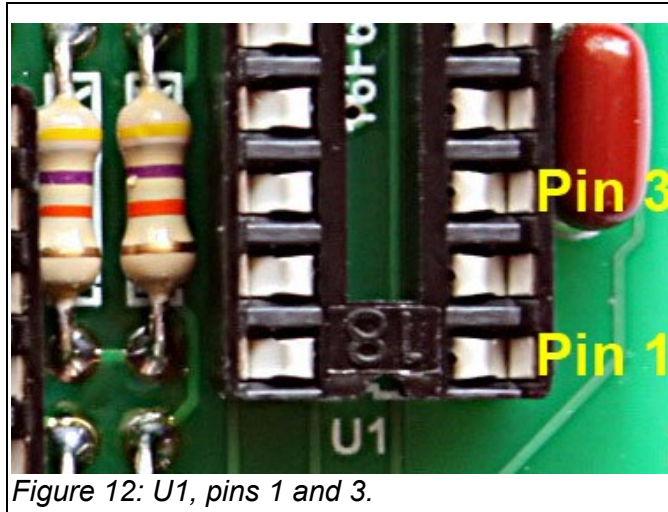

Figure 12: U1, pins 1 and 3.
- Touch the free end of your test lead to pin 1 of the empty socket for U1 (see Figure 12 below to identify this pin). Red LED2 should turn off each time the pin is touched. If not, check and correct the U4 items listed above. If LED2 is off when not touching the pin, skip this step – the “floating” input to U4 is likely switching to the opposite state, producing a useless indication. This condition will be corrected when U1 is installed in its socket.
- Touch the free end of your test lead to pin 3 of the empty socket for U1 (see Figure 12 above to identify this pin). Red LED4 should turn off each time the pin is touched. If not, check and correct the U4 items listed above. If LED4 is off when not touching the pin, skip this step, as described in the previous step.